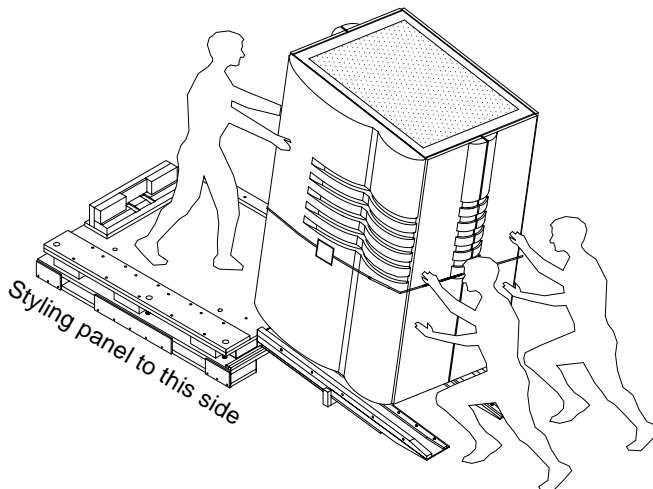

FIGURE 5-11 Moving the Cabinet onto the Pallet
6. Move the cabinet onto the pallet (FIGURE 5-11).